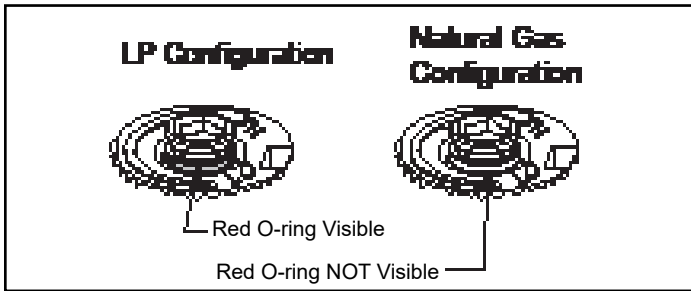

Figure 77
8. Verify that if the conversion is from NG to LP, the screw must be reassembled with the red o-ring visible. (Figure 77)